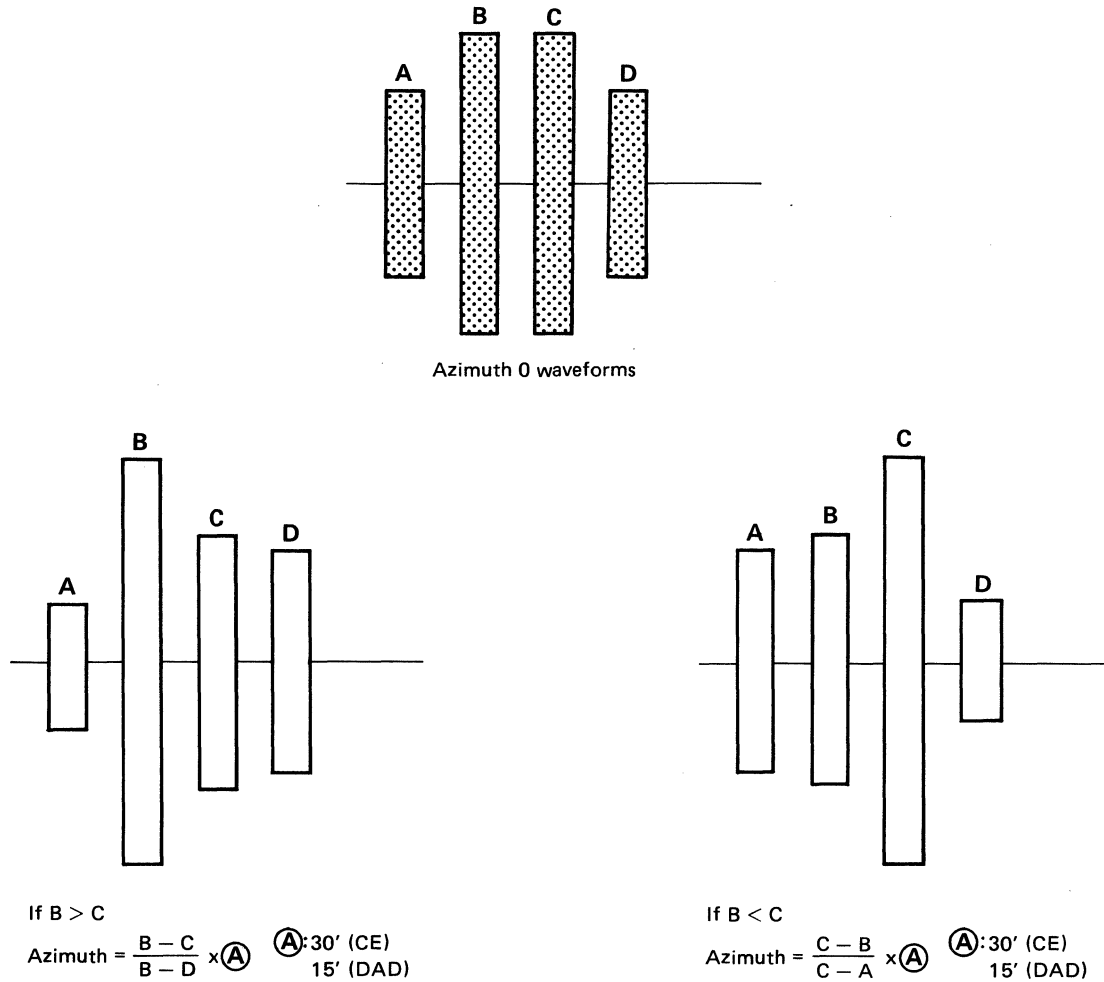

Fig. 4.4 Azimuth Waveforms
3. Synchronize oscilloscope on IX (– INDEX), and set time base to 20 ms/division (DAD) or to 0.5 ms/division (CE).
4. Connect one probe to T1 and the other to T2. Ground the probes to GND and AG. Set inputs to AC Add, and invert one channel. Set vertical deflection to 5 mV/division (DAD), or to 0.1 mV/division (CE).
5. Measure as shown in Fig. 4.4.